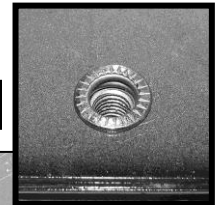

Fig 10C
11. Assemble the Threaded Insert installation tool as pictured in **Figure 10B**. Hold the handle and push the insert into the drilled hole in the pinch weld. **NOTE:** Insert must fit snug in hole. If necessary, use a small hammer to carefully tap the insert into the hole until the rim on the insert is flush against the pinch weld. Firmly hold the tool handle and tighten the hex bolt in the tool to expand the insert in the hole. Continue until threads are flush with the top of the insert, **(Figure 10C)**. Remove the tool and hardware. Bolt the Support Bracket to the threaded insert with (1) 8mm x 30mm Hex Bolt, (1) 8mm Flat Washer and (1) 8mm Lock Washer, **(Figure 11)**. Tighten hardware at this time.